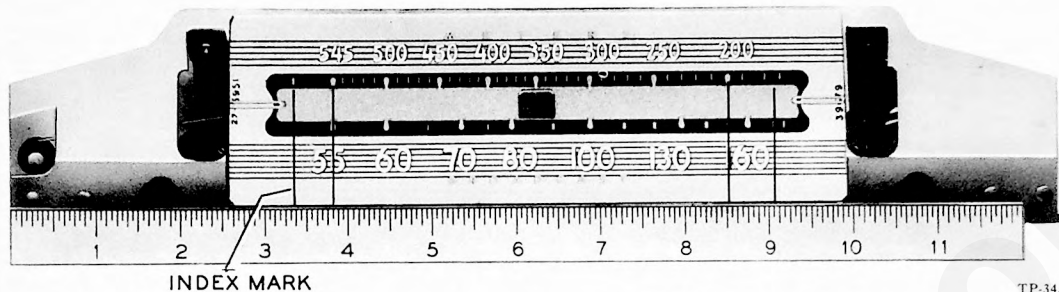

Figure 4. Composite Dial and Backplate, Calibration Details
**DIAL**—Alignment points should be marked on the dial backplate. Measurements for these points are shown in the composite dial-and-backplate photo, figure 4. With tuning condensers fully meshed, set dial pointer to index mark.